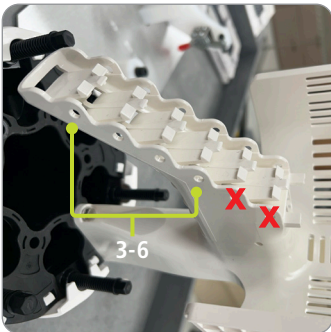

Figure 1
1. Fill four (4) available tray slots from the bottom. Only positions 3-6 will accommodate splice trays. (Figure 1)